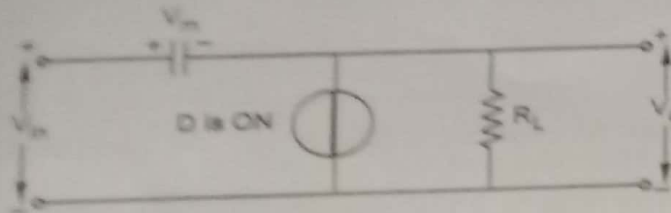

Fig. Q.49.2
• The capacitor once charged to V_m , acts as a battery of voltage V_m because of its large time constant, as shown in the Fig. Q.49.2.